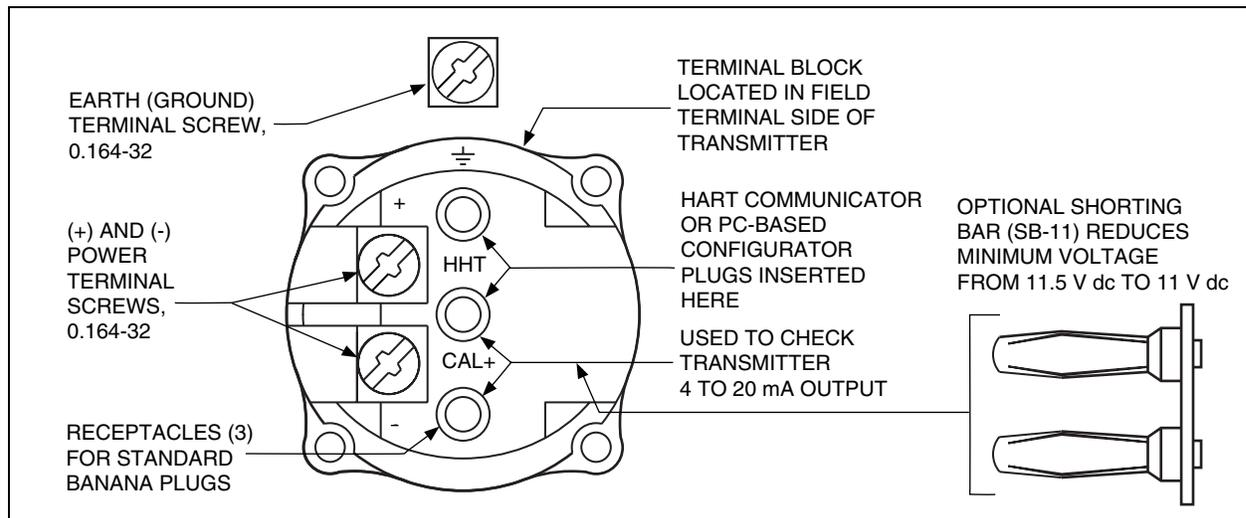

Figure 23. Field Terminal Block
- (f) 11.5 V dc can be reduced to 11 V dc by using a plug-in shorting bar; see “Supply Voltage Requirements” section and Figure 23.
Field and RTD sensor wires enter through 1/2 NPT, PG 13.5, or M20 threaded entrances, as specified, on either side of the electronics housing. Wires terminate under screw terminals and washers on terminal block in the field terminal compartment. Unused entrance is plugged to insure moisture and RFI/EMI protection. See Figure 23.